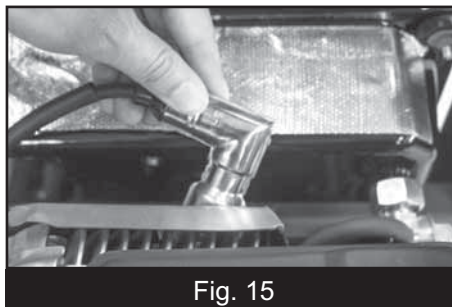

Fig. 15
1. Remove the spark plug cap (Fig.15 & 16).